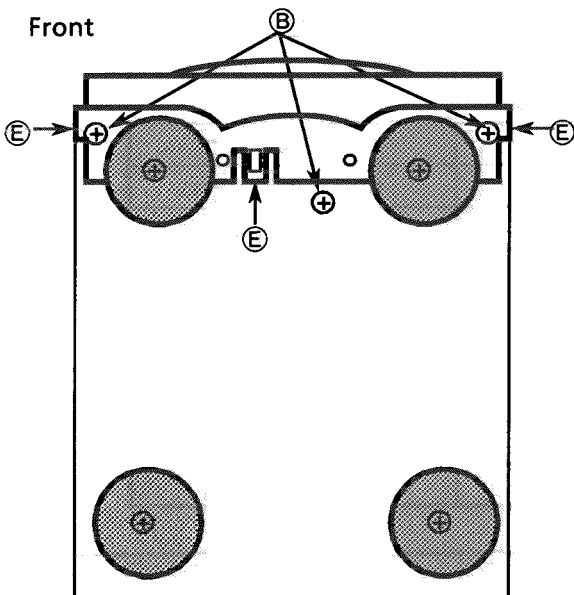

Fig.3 Bottom view
3. Remove the 3 screws (B). (Fig.3)
4. Release the 3 hooks (E) holding the front panel, and remove the front panel assembly.